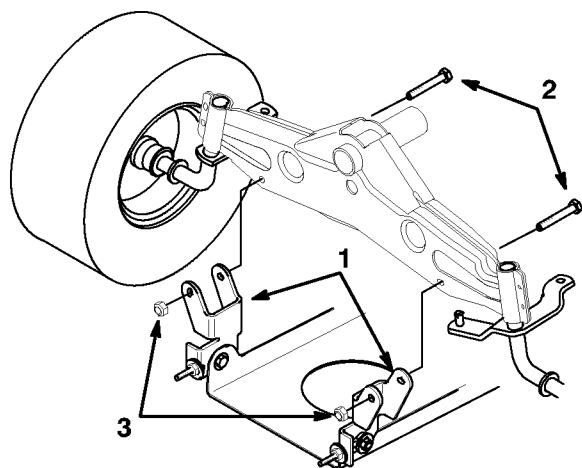

Figure 41
9. Remove the bolts and lock nuts and pull the two mower pivot mount brackets down from the front axle (Fig. 41).